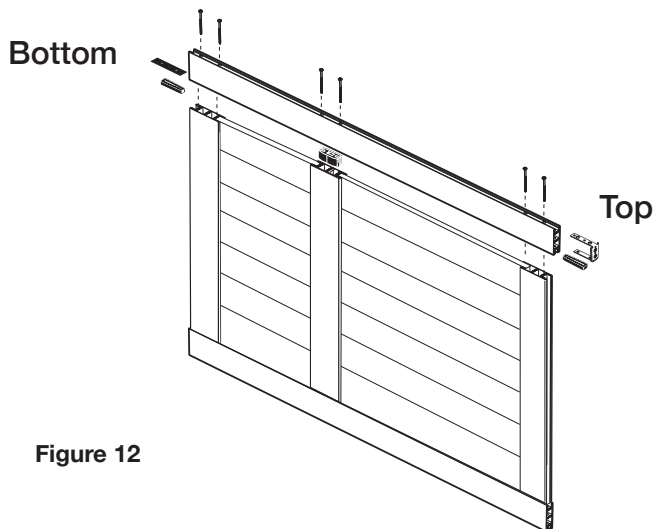

Figure 12
Make sure the holes in the extrusion on the Top rail (C) line up against the screws. Once in place, continue tightening screws until stile and rail are flush and secure. Go back and fully tighten the screws in the Center and Bottom Rails. See Figure 12.